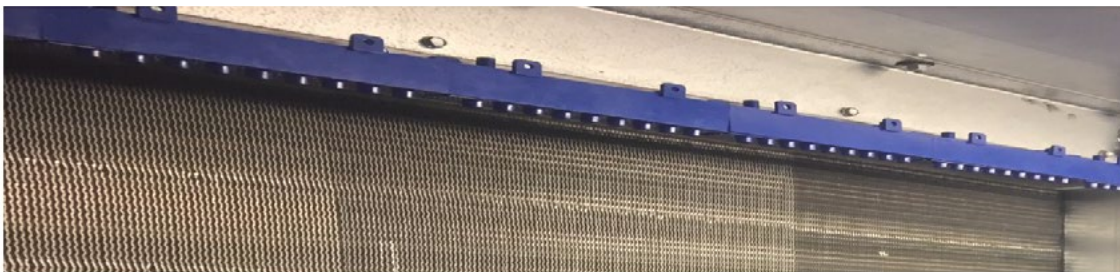
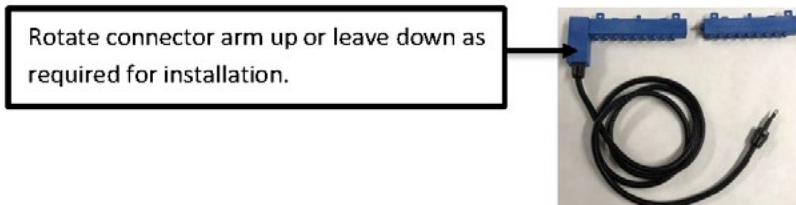

FIGURE 13
FIGURE 14
For standard applications, there should be a quantity of 1 GPS-iMOD bar assembly on each coil up to 60 inches in height. The GPS-iMOD bar(s) should be spaced a maximum of 60 inches apart to get optimal ionization coverage on the coils. The bar should be installed such that the entire finned-width of the cooling coil is spanned by the GPS-iMOD bar (see FIGURE 13).
4. When mounting the GPS-iMOD, the bottom of the GPS-iMOD should be level with top of the finned surface area of the coil as shown in FIGURE 13, with the carbon fiber brushes pointing towards the floor. Keep all metal away from carbon fiber brushes. The ionization bar should always be mounted on the air-entering side of the cooling coil. Mounting the bar on the leaving side of the coil (drain pan and wet side) will not keep the coil clean. The GPS-iMOD powerhead may be rotated to provide the best power cord routing based on the installation. Refer to FIGURE 14. When more than one bar is required per coil, mount the second bar half-way down the coil with the needles pointing towards the floor.